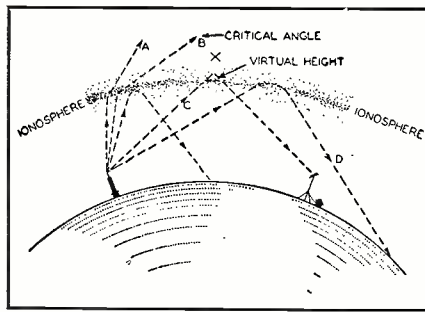

Fig. 2. Bending of radio waves reflected back to the earth from the ionosphere. This occurs at frequencies below 40 mc.
The sky wave, which accounts for long distance reception on the lower frequencies such as the broadcast and short-wave bands, is "bent" back to the earth by ionized "layers" or "strata" in the earth's upper atmosphere. Fig. 2 shows this type of transmission. The ionized "layer," which consists of atoms and molecules of the air (principally nitrogen and oxygen), acts like a mirror at the "virtual" height "X." (See Fig. 2.) In reality the wavefront is steadily bent as it passes into regions of gradually increasing free electron density and emerges toward the earth as though it had been reflected. The amount of bending which a wave will encounter is a function of the wavelength. For each wavelength there exists a critical angle (see (B) of Fig. 2) at which the wave will pass through the "layer" and not return to the earth. Frequencies of more than 30 to 40 megacycles are not returned by the ionosphere, except under unusual sporadic conditions, and therefore this type of wave path cannot be depended upon for television transmission.